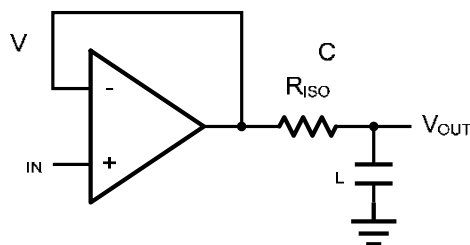
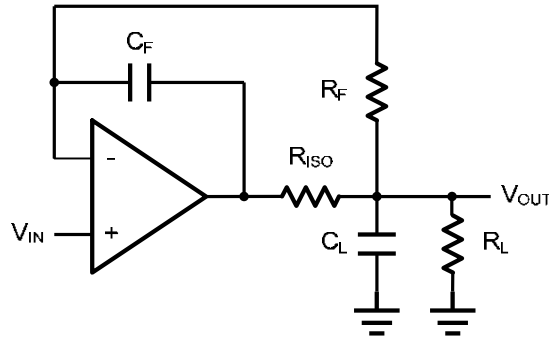

Figure 2 Indirectly Driving a Capacitive Load Using Isolation Resistor
Figure 3. Indirectly Driving a Capacitive Load with DC Accuracy
The AD854X family is optimized for bandwidth and speed, not for driving capacitive loads. Output capacitance will create a pole in the amplifier's feedback path, leading to excessive peaking and potential oscillation. If dealing with load capacitance is a requirement of the application, the two strategies to consider are (1) using a small resistor in series with the amplifier's output and the load capacitance and (2) reducing the bandwidth of the amplifier's feedback loop by increasing the overall noise gain. Figure 2 shows a unity gain follower using the series resistor strategy. The resistor isolates the output from the capacitance and, more importantly, creates a zero in the feedback path that compensates for the pole created by the output capacitance.
The circuit in Figure 3 is an improvement to the one in Figure 2. R_F provides the DC accuracy by feed-forward the V_{IN} to R_L . C_F and R_{ISO} serve to counteract the loss of phase margin by feeding the high frequency component of the output signal back to the amplifier's inverting input, thereby preserving the phase margin in the overall feedback loop. Capacitive drive can be increased by increasing the value of C_F . This in turn will slow down the pulse response.